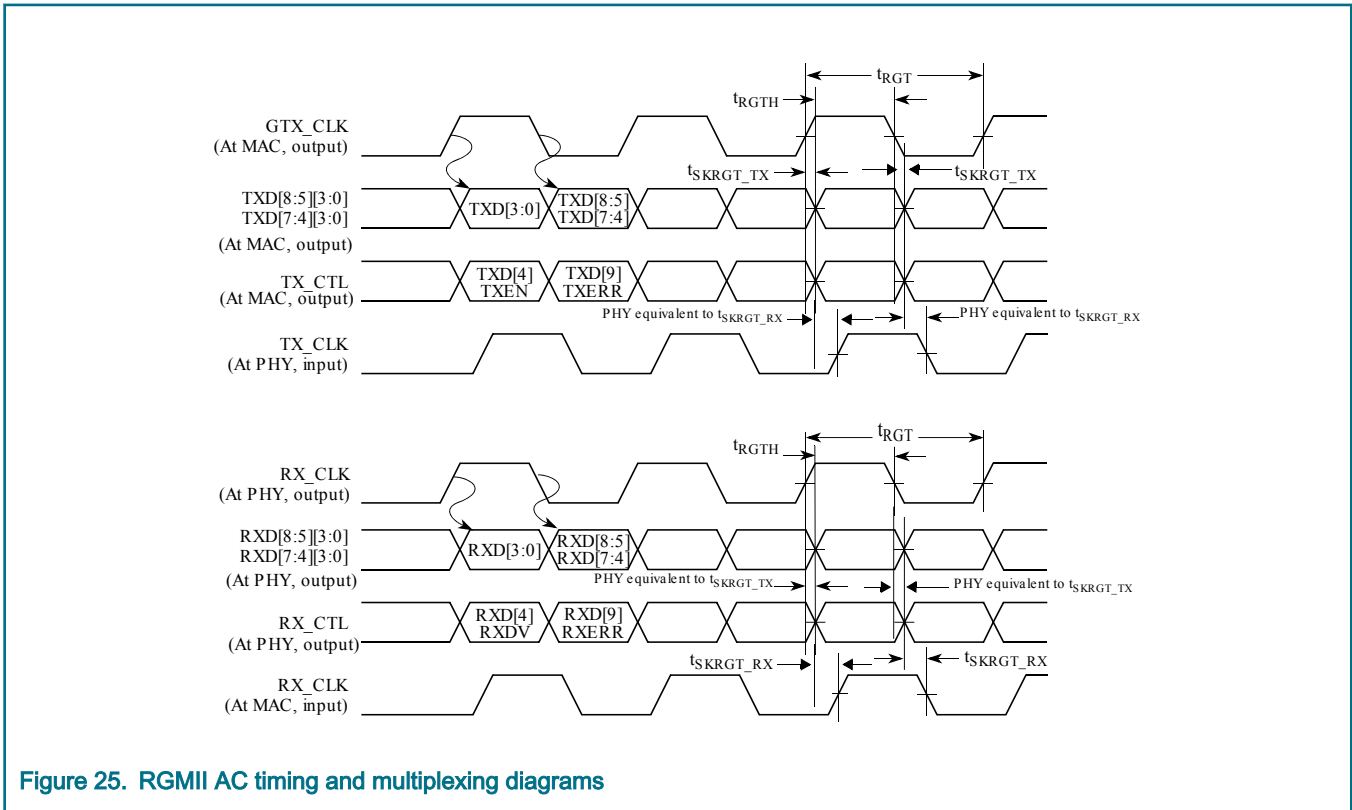

Figure 25. RGMII AC timing and multiplexing diagrams
7. In general, the clock reference symbol representation for this section is based on the symbols RGT to represent RGMII timing. Note that the notation for rise (R) and fall (F) times follows the clock symbol that is being represented. For symbols representing skews, the subscript is skew (SK) followed by the clock that is being skewed (RGT).
8. See Figure 25.